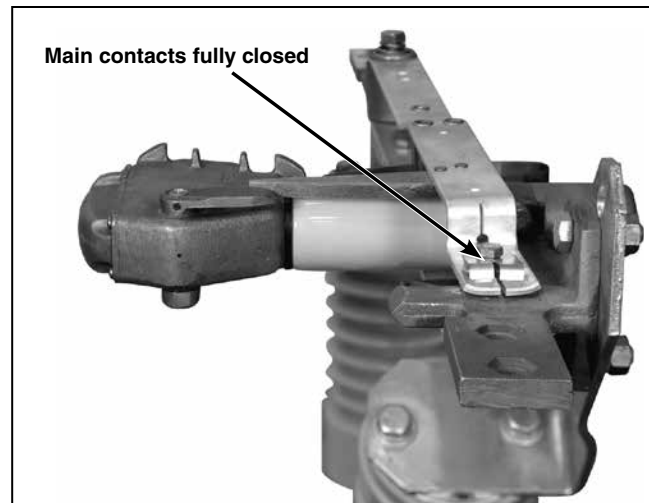

Figure 33. Check that the blade is fully closed.
- (a) With the operating handle as far as it will go in the *closing* direction, all main contacts of the interrupter switch are in the fully **Closed** position. See Figure 33.